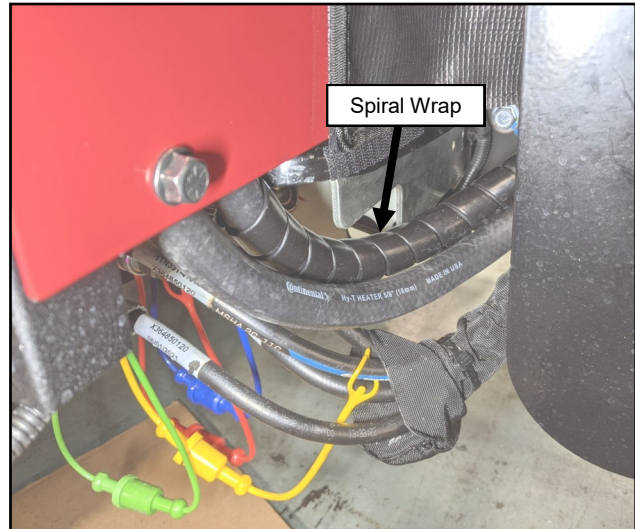

Fig. 18.15 (Heater Supply Hose)
- 18.15** Wrap the hose closest to the vehicle under the floor pan with the supplied spiral wrap to protect heater hose. See Figure 18.15.